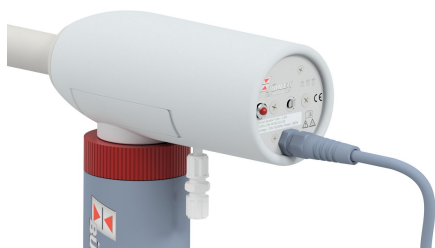

Fig. 1
- Remove the plug from the probe casing (Fig. 1 and 2)